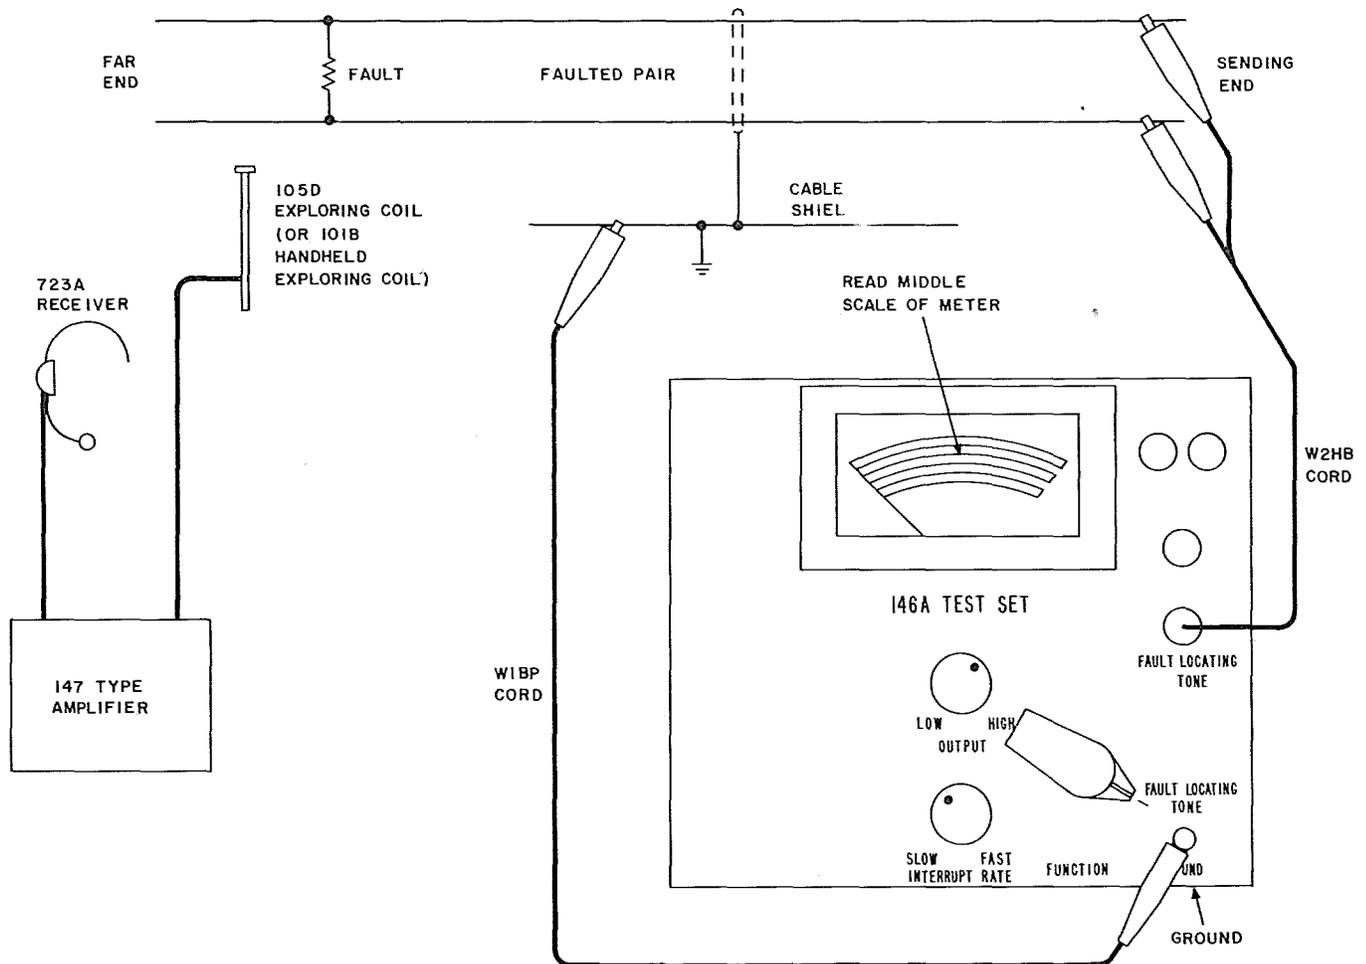

Fig. 15—Resistive Fault Locating
7.01 The 146A test set can be used to locate resistively faulted pairs in cables. It gives a ball park indication of loop plus fault resistance. This information guides the user where to begin exploring for the fault. (See Fig. 15.)